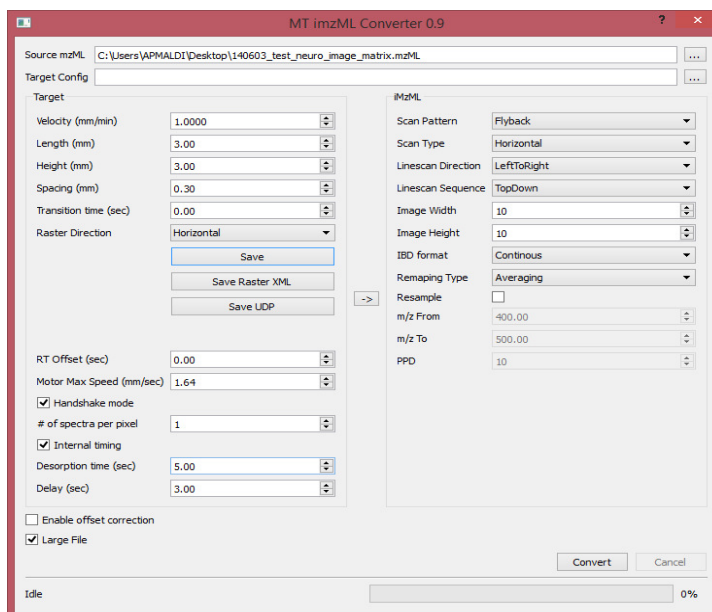

Figure 12 The MT imzML Converter 0.9
4. Open the MT imzML Converter- the demo software provided by MassTech. Populate the dialog box with the information as shown in Figure 12.